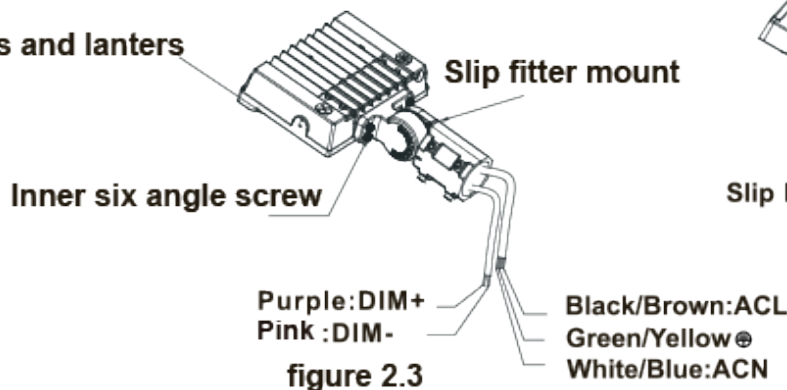

figure 2.3
Step 2: Finish the wire connection according to the right mode of connection (pay attention to positive wire, negative wire, and ground wire), and then put wire into lamp pole; (figure 2.3)